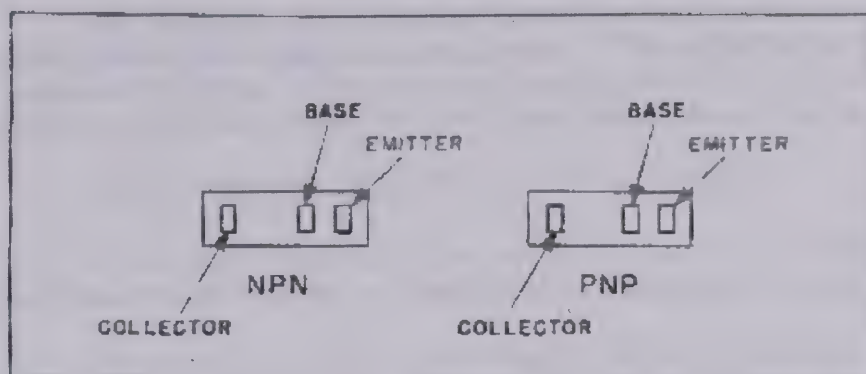

Figure 2-2. Transistor Socket Identification
(4) Insert transistor to be tested into the proper socket (PNP or NPN). Be sure to check the manufacturers data to determine the type of transistor. Transistors can be damaged if placed into the wrong socket. See Figure 2-2 for correct socket identification.
(5) Adjust the SHUNT control until the needle on the test meter reads full scale or 100% on the lower scale. If the test meter fails to indicate an upscale deflection, the transistor is open or defective.
(6) Push the slide switch marked LEAKAGE-GAIN to the LEAKAGE position. Test meter will now indicate the leakage current on the lower scale for TRANSISTORS. If the needle is in the GOOD area the transistor is good, and if the needle is in the POOR area, the transistor should be discarded.